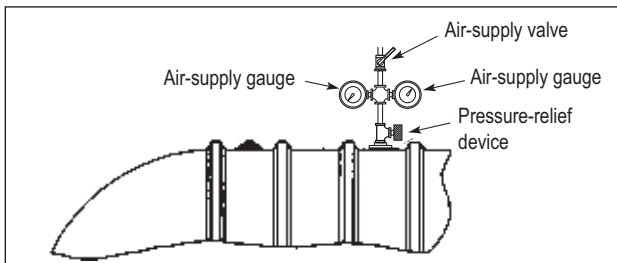

FIGURE 3-3
3.4.1. Install the test manifold in the open service fitting and connect the pressure source to the test manifold. (See FIGURE 3-3.)